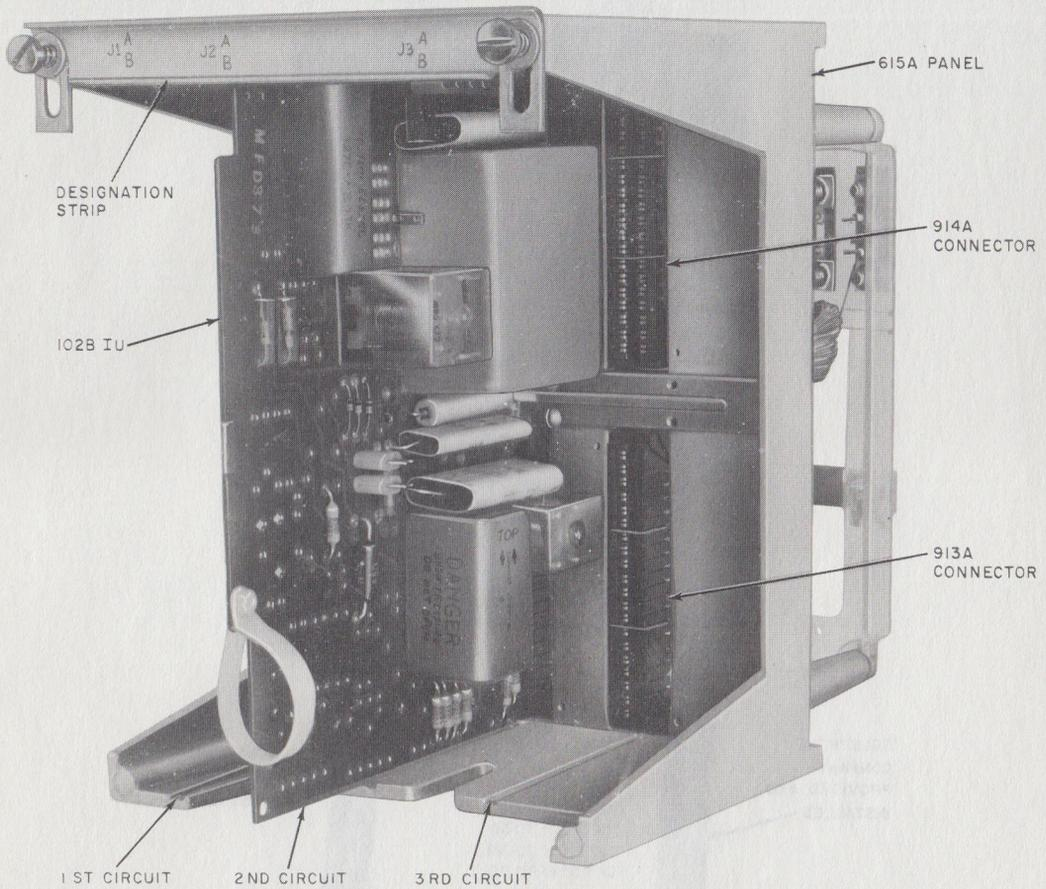

Fig. 4—102B Interconnecting Unit Mounted in 615A Panel
- Panel, 615A (fuse panel only—no power unit; will mount up to three 102-type IUs, Fig. 4)
##### 102-Type Interconnecting Unit (Fig. 4)